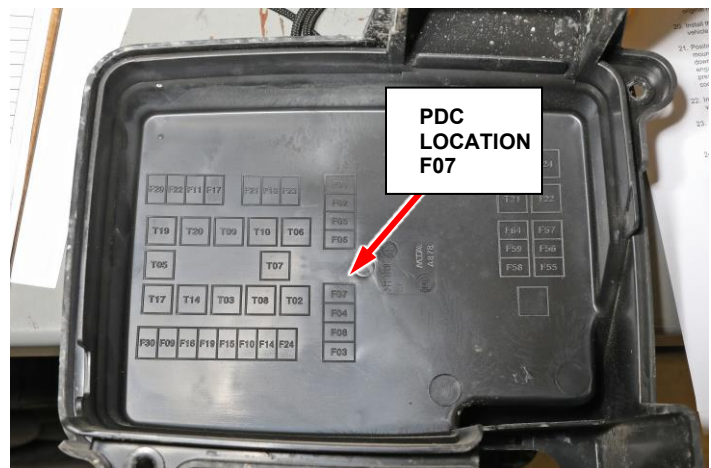

Figure 20 – PDC Location F07
52. Remove the old fuse from location F07 and discard it (Figure 20).
53. Install a new 40A fuse to location F07 (Figure 20).